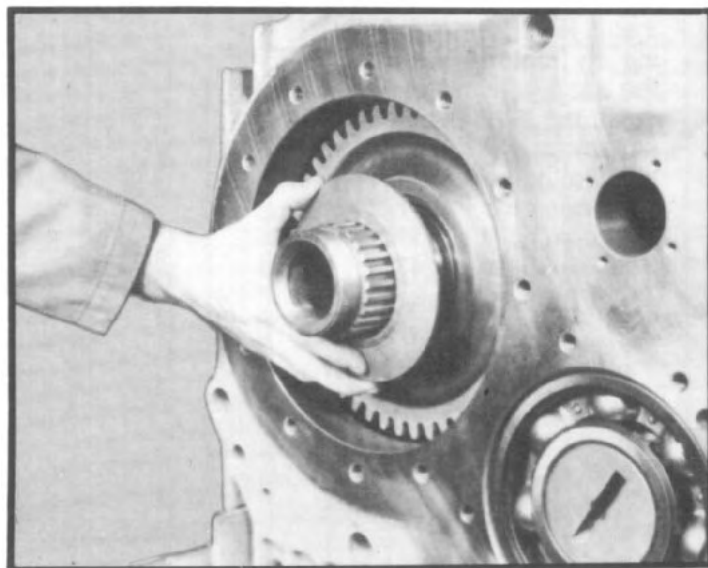

Fig. 146
3.11 Place thrust washer onto rear of shaft and against gear. Place flat side of washer against the gear. (See fig. 146.)